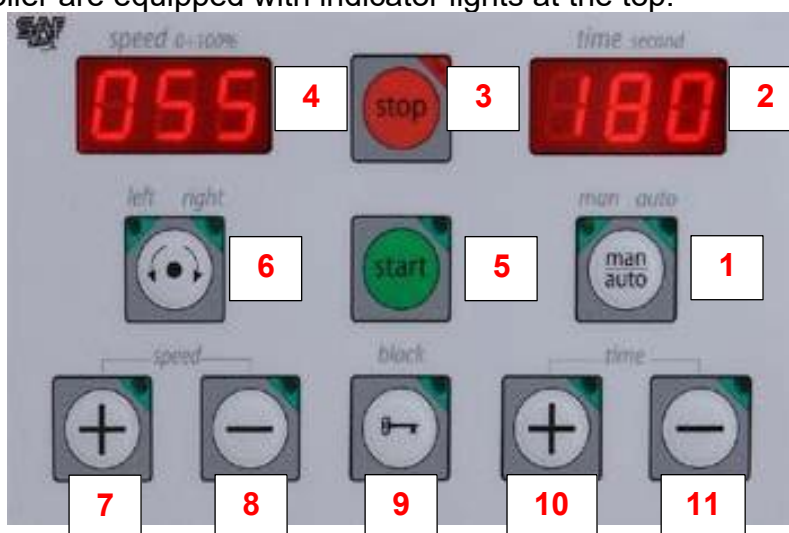

Fig. 5.1. Controller SN_ALIM
MAN/AUTO (see 1 on Fig. 5.1.)	Programme selection (manual/automatic)
TIME (see 2 on Fig. 5.1.)	Time display
STOP (see 3 on Fig. 5.1.)	Stopping spinning
SPEED (see 4 on Fig. 5.1.)	Speed display
START (see 5 on Fig. 5.1.)	Start of spinning
LEFT/RIGHT (see 6 on Fig. 5.1.)	Change of spin direction (left/right)
PLUS (see 7 on Fig. 5.1.)	Increasing speed
MINUS (see 8 on Fig. 5.1.)	Reducing speed
BLOCK (see 9 on Fig. 5.1.)	Saving of settings
PLUS (see 10 on Fig. 5.1.)	Extension of time
MINUS (see 11 on Fig. 5.1.)	Reducing time
4. Press the **PLUS** or **MINUS** buttons (see 6 and 7 on Fig. 5.1.) to increase or decrease the spin speed.
3. Press the **PLUS** or **MINUS** buttons (see 6 and 7 on Fig. 5.1.) to program the spin speed. 4.
4. Press the **PLUS** or **MINUS** buttons (see 10 and 11 on Fig. 5.1.) to program the duration of the centrifugation cycles. A full cycle consists of 4 steps (2 clockwise and 2 counterclockwise).
3. Press the **PLUS** or **MINUS** buttons (see 10 and 11 on Fig. 5.1.) to program the duration of the centrifugation cycles (expressed in seconds, min: 60, max: 300).
- Press the **PLUS** or **MINUS** buttons (see 10 and 11 on Fig. 5.1.) and **PLUS** or **MINUS** buttons (see 7 and 8 on Fig. 5.1.) to set the preferred time and speed.
- Press the **PLUS** or **MINUS** buttons (see 10 and 11 in Fig. 5.1.) and **PLUS** or **MINUS** (see 7 and 8 in Fig. 5.1.) to set the preferred time and speed.